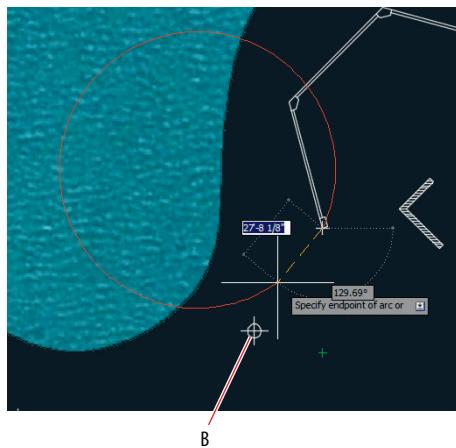

FIGURE 5.2 The direction of the default polyline arc opposes the curvature of the lake.
2. Toggle off Ortho and Polar Tracking modes if they are on. Observe that the arc you are drawing by default opposes the natural curvature of the lake (see Figure 5.2). The command prompt reads as follows:
3. Type **s** (for Second Point) and press Enter. Click point B shown in Figure 5.2.